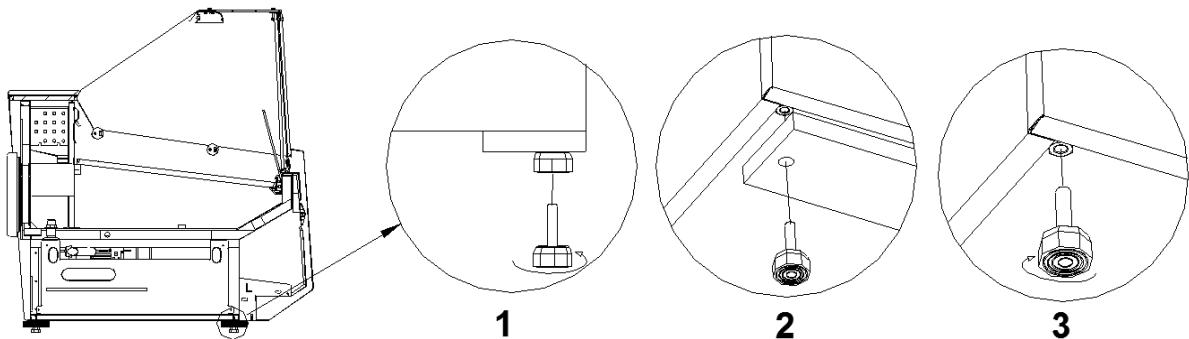

Fig.2 Removal of the wooden platform
- Unpack the device and remove the wooden platform from the base (does not apply to mobile devices) *Fig.2 (p.6)*.